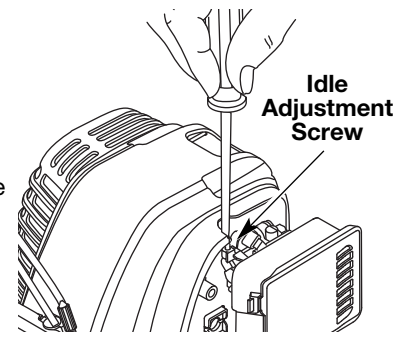

Fig. 29
The idle speed of the engine is adjustable. An idle adjustment screw is between the air filter cover and the engine starter housing (Fig. 29).
2. Move the throttle control lever to the Slow position (→) and let the engine idle. If the engine stops, insert a small phillips in between the Air Filter Cover and the Engine Cover (Fig. 29).